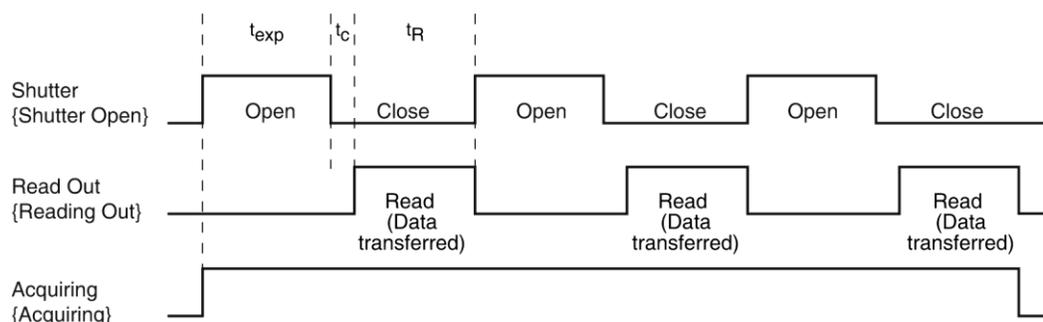

Figure 25. Comparison of Shutter {Shutter Open}, Read Out {Reading Out}, and Acquiring {Acquiring} Levels
- Acquiring{Acquiring}**: After a start acquisition command, this output changes state on completion of the array cleaning cycles that precede the first exposure. Initially low, it goes high to mark the beginning of the first exposure. In Focus mode operation it remains high until the system is halted. If a specific number of frames have been programmed, it remains high until all have been taken and then returns low. Figure 25 assumes 3 frames have been programmed.